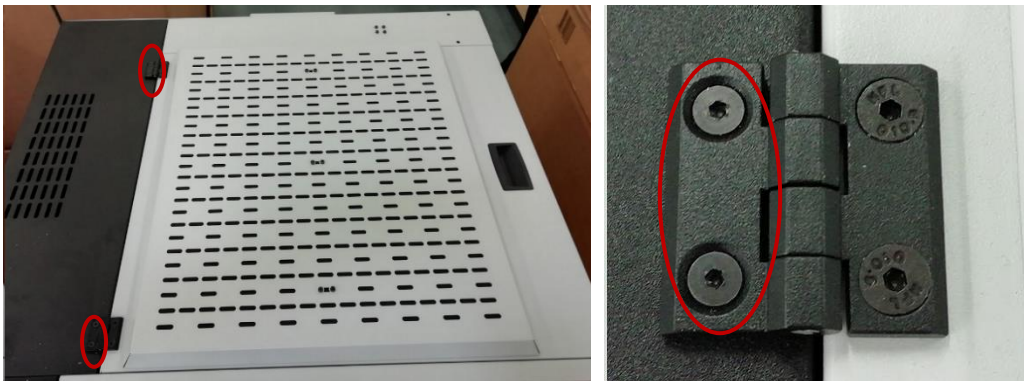

Fig. 9 Unscrew the 4 DIN7991-M5x12 screws fixing the top cover to the printer.
2. Remove the 4 DIN7991-M5x12 screws fixing the top cover to the printer and put them aside (Fig. 9).